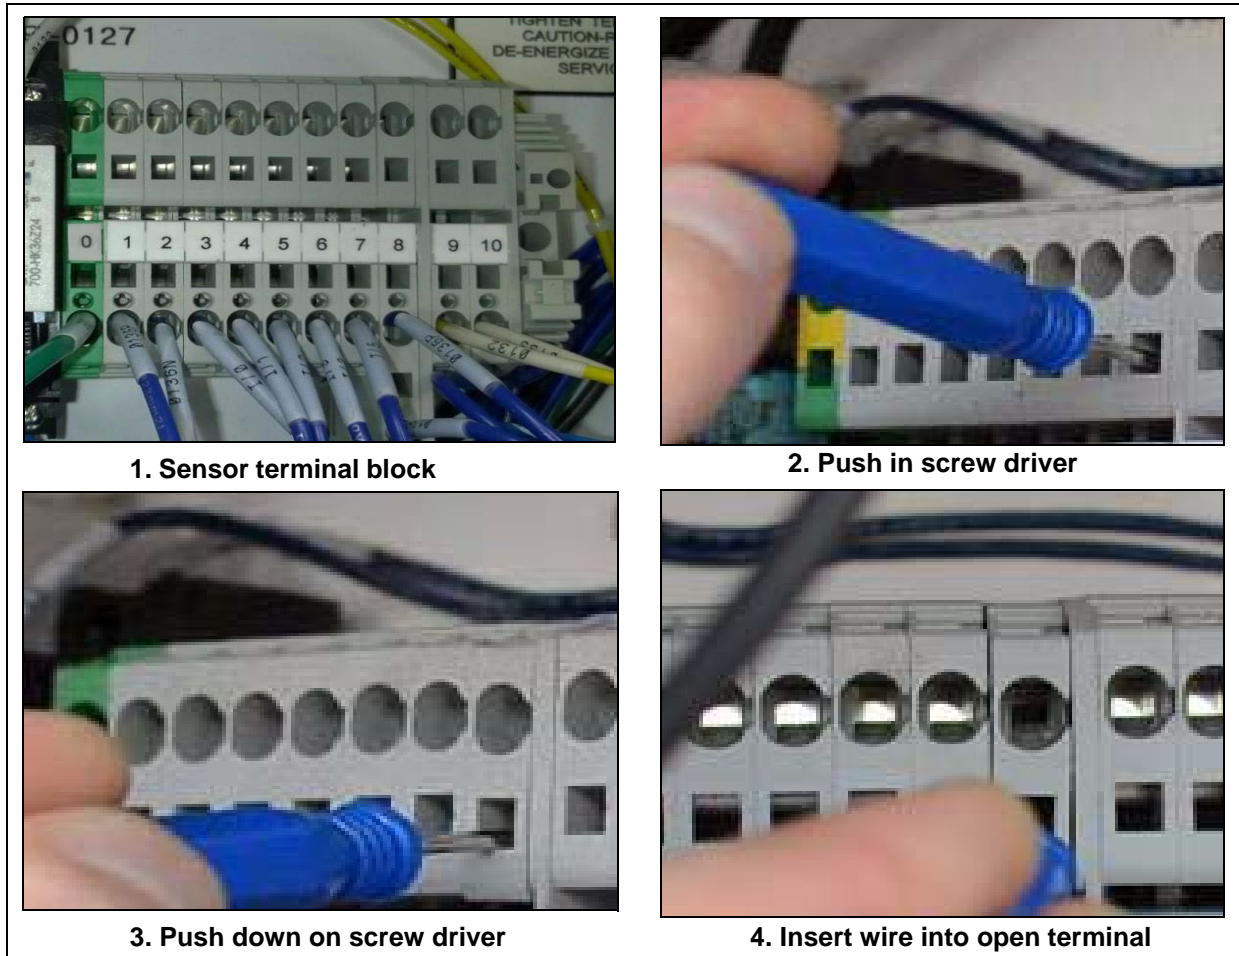

Figure 3I
5. Repeat for remaining wires. (*See Figure 3I.*)